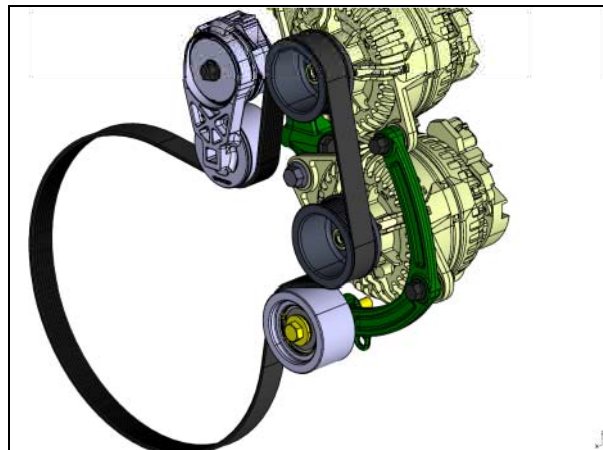

FIGURE 6
10. Install the alternator belt (figure 6)